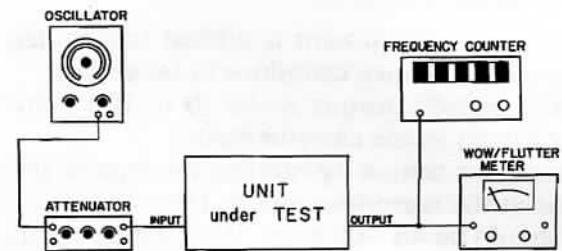

Fig. 5-8
- 1) Connect a frequency counter to the OUTPUT terminals as shown in Fig. 5-8.